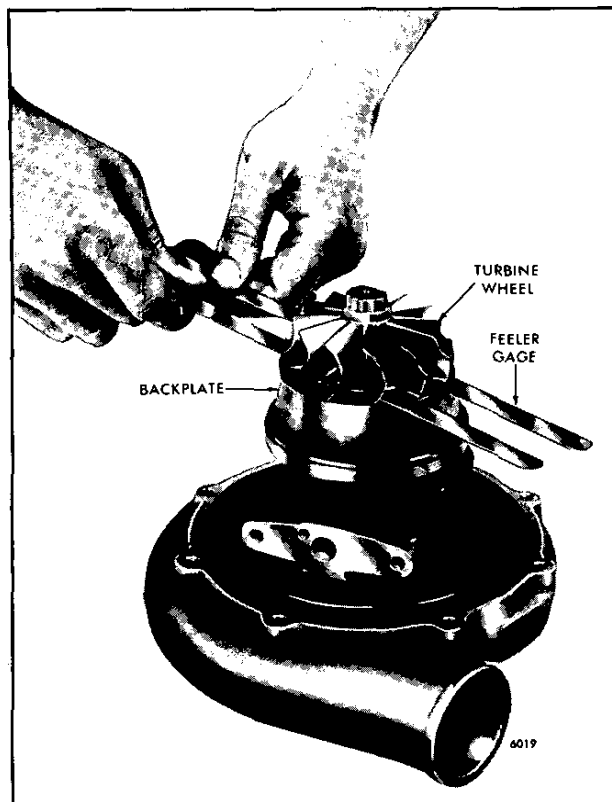

Fig. 18 - Checking Turbine Wheel to Backplate Clearance
19. Check the turbine wheel back clearance by placing two equal feeler gage stacks between the back face of the turbine wheel and the backplate on the opposite sides of the shaft (Fig. 18). Clearance must be .43 mm